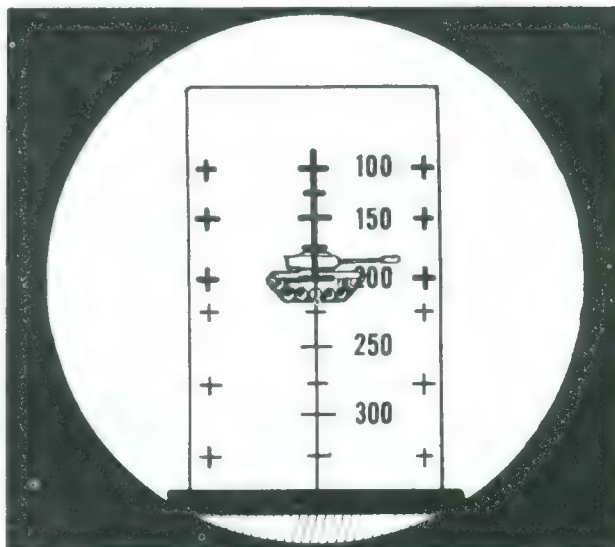

Figure 14. Stationary target at 200 meters
- (1) *Stationary target.* To engage a stationary target the gunner estimates the range to the target, finds this range on the reticle, and places that point on the target's center of mass (fig. 14).